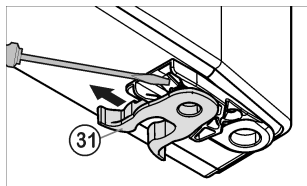

Fig. 7
- ▶ Swap the spring clip *Fig. 7 (31)*: Push the locating lug down. Pull the spring clip up and out.